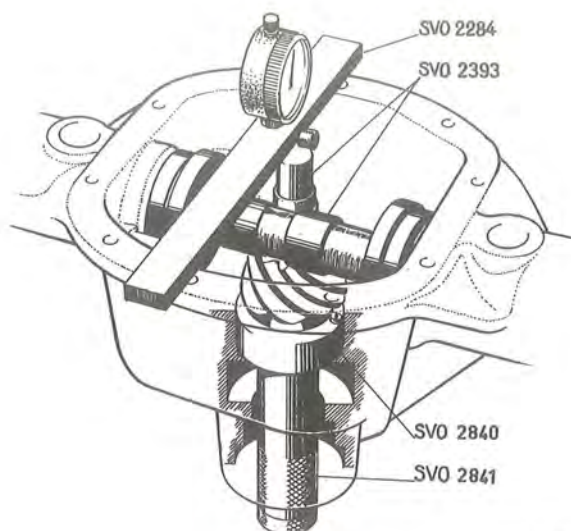
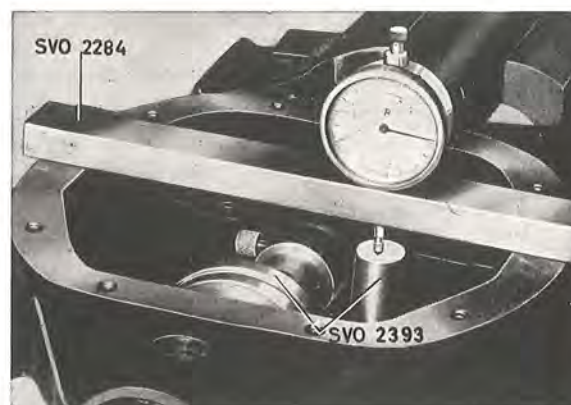

Fig. 4-150. Locating the measuring tools
Fig. 4-151. Zero-setting the indicator
1. Clean the marking surface on the pinion with extremely fine emery cloth. Fit the adjusting ring SVO 2847 and tool SVO 2841 on the pinion, see Fig. 4-148. Place the pinion in the carrier, see Fig. 4-150, and secure the adjusting ring by screwing in the lock screw.
Place the pinion gauge on the ground surface of the pinion and the adjusting jig in the differential bearing positions as shown in Fig. 4-150. Place the indicator retainer on the drive pinion carrier and zero-set the gauge against the adjusting jig, see Fig. 4-151. Then move the indicator retainer over so that the indicator comes against the pinion gauge, see Fig. 4-152. If the pinion is marked 0, the adjusting jig and pinion gauge should be at the same height; if the pinion is marked —, the pinion gauge should be higher than the adjusting jig; and if it is marked +, the pinion gauge should be lower than the adjusting jig with correct setting. The setting is adjusted by turning the cam on the pinion until the gauge dial shows the correct value according to the marking. Then lock the